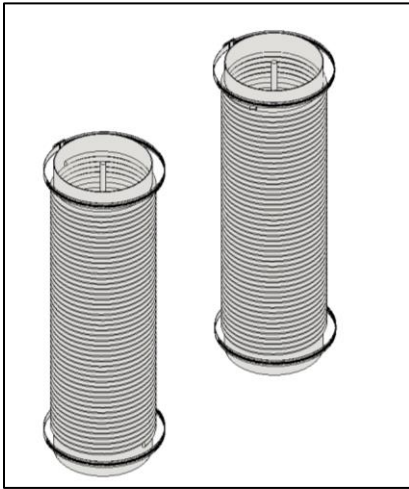

Figure 3-30: CAC8 Ducts with Worm Gear Clamps
5. Insert a worm gear clamp on each end of the ducts (Figure 3-30).